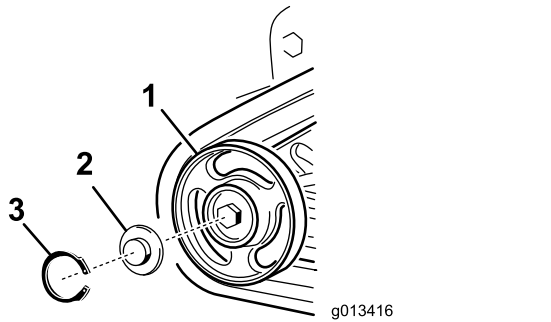

Figure 63
4. Remove the snap ring and cap from a road wheel (Figure 63).
5. Check the grease under the cap and around the gasket (Figure 63). If it is dirty, gritty, or depleted, clean out all of the grease, replace the gasket, and add new grease.
7. Place the greased road wheel cap over the bolt head (Figure 63).
8. Secure the road wheel cap with the snap ring (Figure 63).